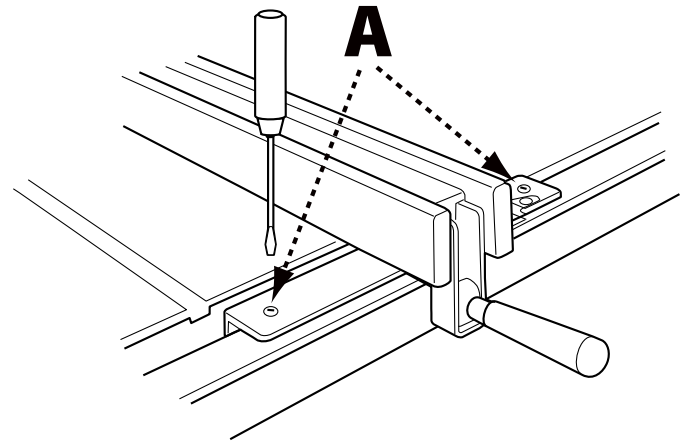

FIGURE 40
3. If the fence face is not perpendicular to the table, release the clamping lever and slightly adjust one of the slotted set screws (A) figure 40 until the fence face is perpendicular to the table.